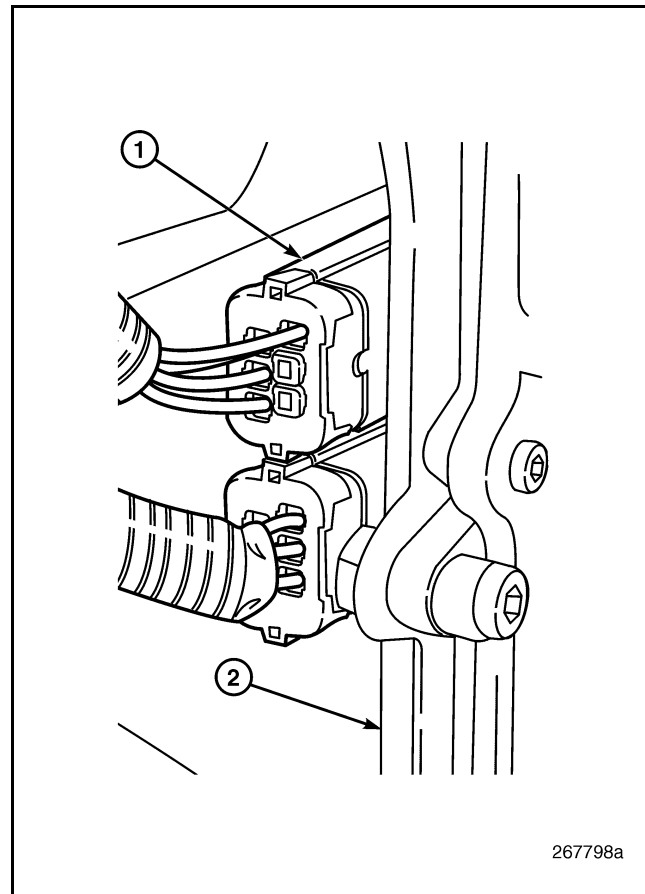

Figure 132 — EGR MASS Flow Module Connections
- Disconnect the two harness leads from the EGR MASS Flow module mounted to the back side of the cooling plate (Figure 132).